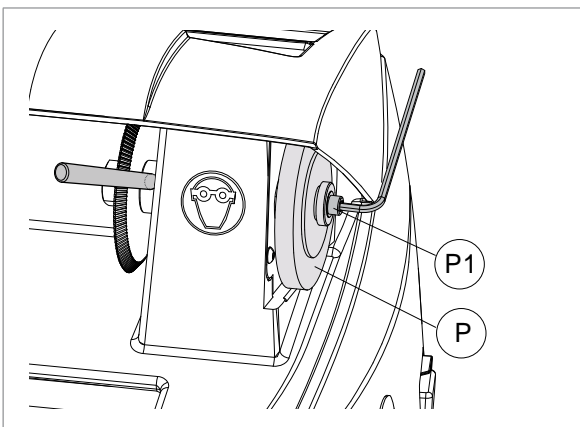

Fig. 28
- 1) Slot the locking rod (provided) into the hole of the cutting tool shaft (Fig. 28).
- 2) Use the Allen wrench to loosen the screw (P1) holding the brush (P) in place (Fig. 28).